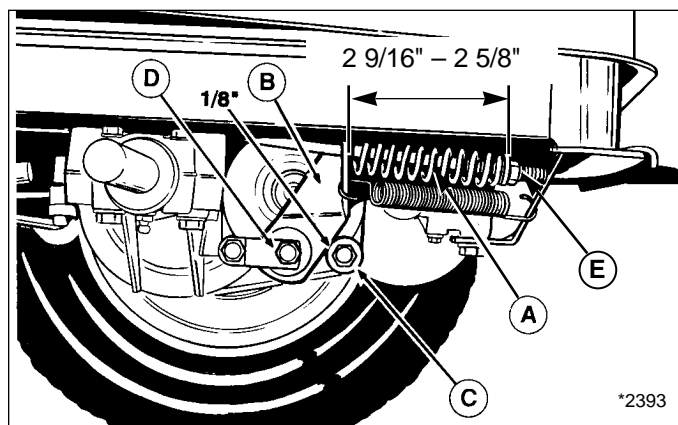

Figure 24. Brake Adjustment (Gear Model)
2. Move the brake lever (B) forward. There should be a 1/8" gap between the lever (B) and the stop (C) as shown in figure 24.
3. To adjust clearance, turn nut (D) clockwise to decrease the gap or turn nut counterclockwise to increase the gap.
4. Set the parking brake. Loosen or tighten adjustment nut (E) to achieve a 2 9/16"–2 5/8" compressed spring length as shown in figure 24.